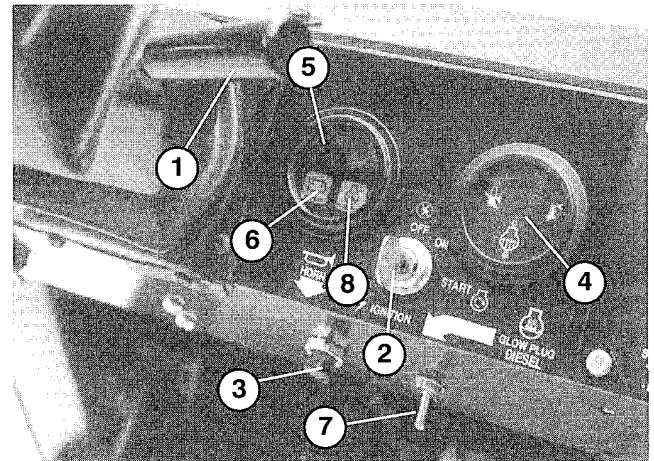

Figure 22
Tilt Steering Lever (Fig. 22) – Lever on right side of console allows steering wheel to be adjusted for operator comfort.
Coolant Temperature Gauge (Fig. 22) – Registers coolant temperature in engine. Operates only when ignition switch is in On position.
Horn Button (Fig. 22) – Pressing button activates horn.
Engine Low Oil Pressure Light (Fig. 22) – Light glows if engine oil pressure drops below a safe level while engine is running. If light flickers or remains ON, stop vehicle, turn off engine and check oil level. If oil level was low, but adding oil does not cause light to go out when engine is restarted, turn engine off immediately and contact your local TORO distributor for assistance.
Glow Plug Switch and Indicator (Fig. 22) – Use to preheat engine cylinders prior to cold engine starting procedures – cylinders are preheated automatically during warm engine start operation. For cold starting, push switch lever upward and hold while watching indicator. Indicator will glow orange when the glow plugs are activated. Length of time necessary to preheat cylinders should be determined by atmospheric temperature; refer to Starting /Stopping Engine.
Ignition Switch (Fig. 22) – The ignition switch, used to start and stop the engine, has three positions: OFF, ON / Preheat and START. Rotate key clockwise — START position — to engage starter motor. Release key when engine starts. The key will move automatically to the ON position. To shut engine off, rotate key counterclockwise to OFF position.
Charge Indicator (Fig. 22) – Illuminates when battery is being discharged. If light illuminates during operation, stop vehicle, turn Off engine and check for possible causes, such as alternator belt.
5. When temperature is below 15°C (60°F), push glow plug switch upward to ON position (Fig. 22) and hold for suggested interval.